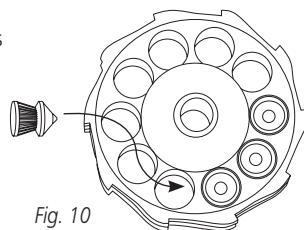

Fig. 10
2. Load pellets through the rear of the magazine. (Fig. 10). Push the pellet noses through the retaining O-ring until their skirts lie flush or below the bottom of the magazine face.